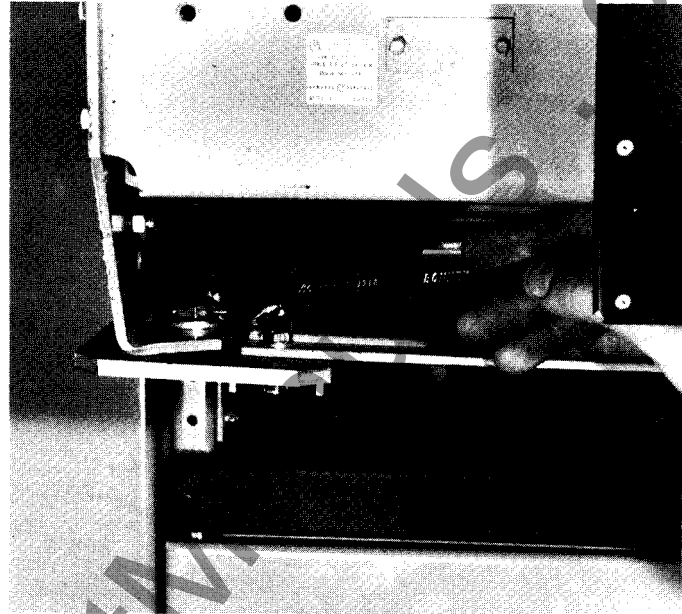

Fig. 5-11. Securing AKR-75/100 breakers to drawout tray
4. Secure the breaker to the tray by inserting and tightening two  $\frac{3}{8}$ -inch hex head screws into the front holes of its side flange as shown in Fig. 5-11.
5. Remove the two  $\frac{3}{8}$ -inch hex head screws (Fig. 5-11) which fasten the breaker to the compartment tray.